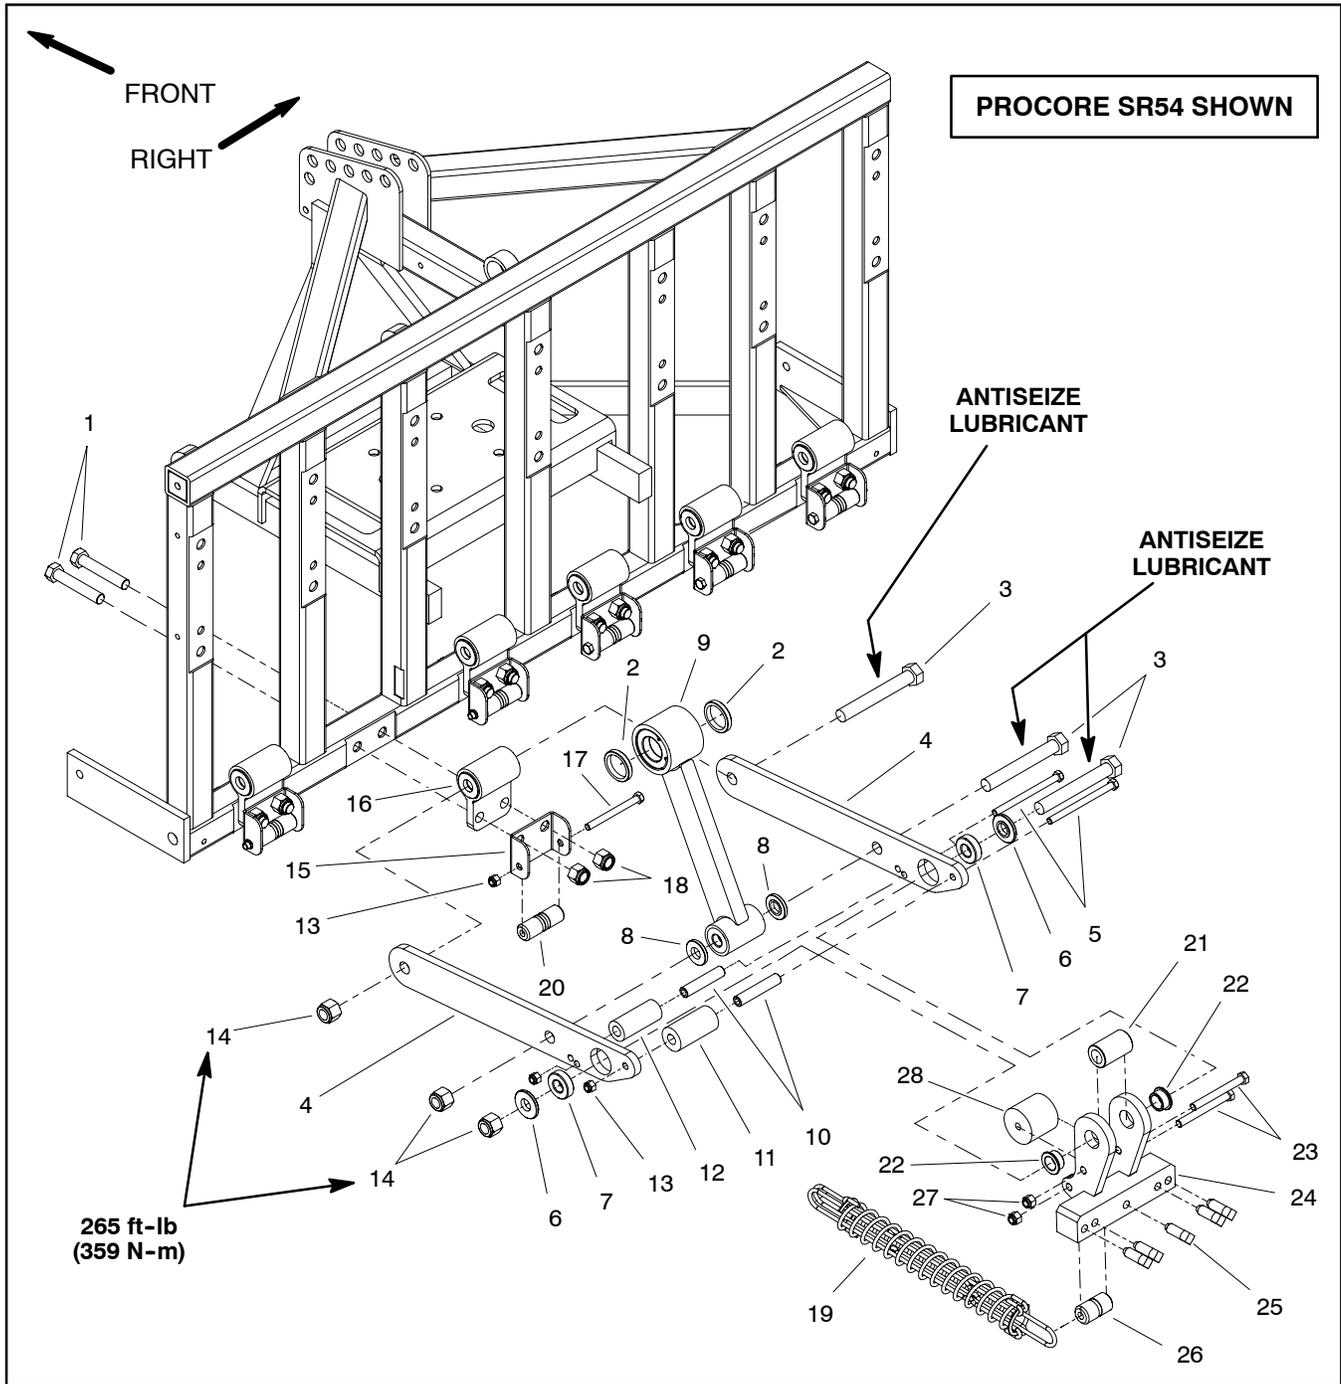
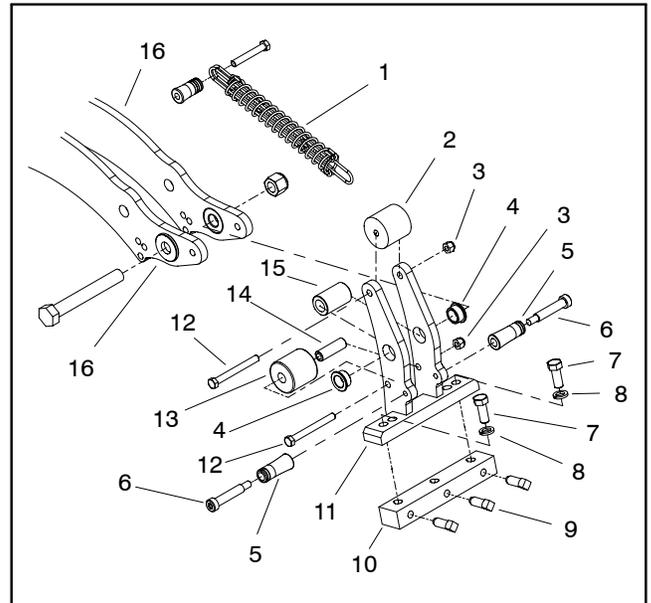

Figure 5
Figure 6
NOTE: The linkage arm assemblies for ProCore SR54 and SR70 aerators are very similar. The ProCore SR54 linkage arm assembly is shown in Figure 5. The tine head assembly used on ProCore SR54-S and SR70-S is shown in Figure 6.
Disassembly (Fig. 5)
2. Remove linkage arm components as needed using Figures 5 and 6 as guides.
Assembly (Fig. 5)
3. Assemble all linkage arm components using Figures 5 and 6 as guides.